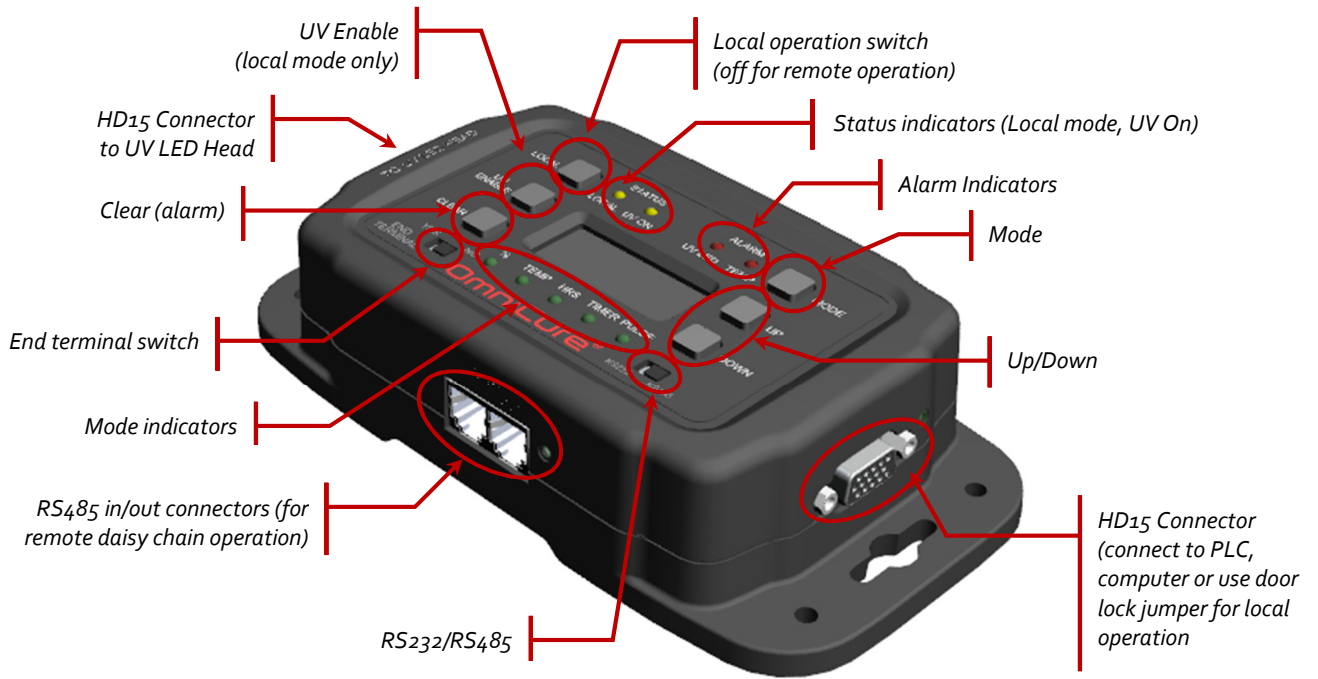

Figure 1 PLC2000 UV Head Controller
2. Connect the female end of the supplied HD15 cable to the Controller at the end labelled *To UV LED Head* (see Figure 1).
5. Insert the supplied Door lock jumper into the HD15 port of the Controller (at the opposite end of the one connected to the UV LED Head) (see Figure 1)
7. Press the *Local* button to run in Local mode (*Status » Local* indicator will be lit). If you will be controlling the PLC2000 remotely, ensure the *Local* button is not engaged (*Status » Local* indicator will be off) (see Figure 1).
8. Any UV LED or Temperature faults will be indicated by the *Alarm* indicators on the Controller. To clear, press the *Clear* button (see Figure 1).